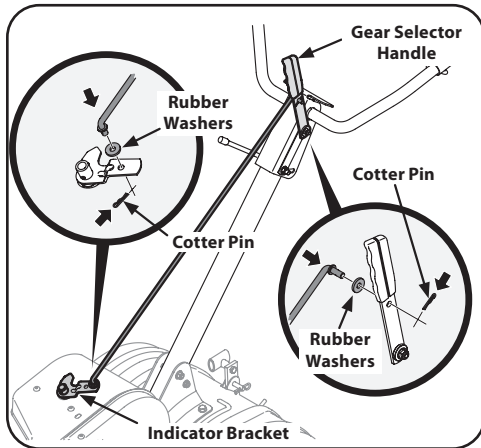

Figure 2-10
3. Insert the shorter (angled) end of the control rod through the indicator bracket on the shift cover and secure with the cotter pin that was previously removed. See Figure 2-10.
4. Insert the longer end of the control rod through the hole in the gear selector handle and secure with the cotter pin. See Figure 2-10.